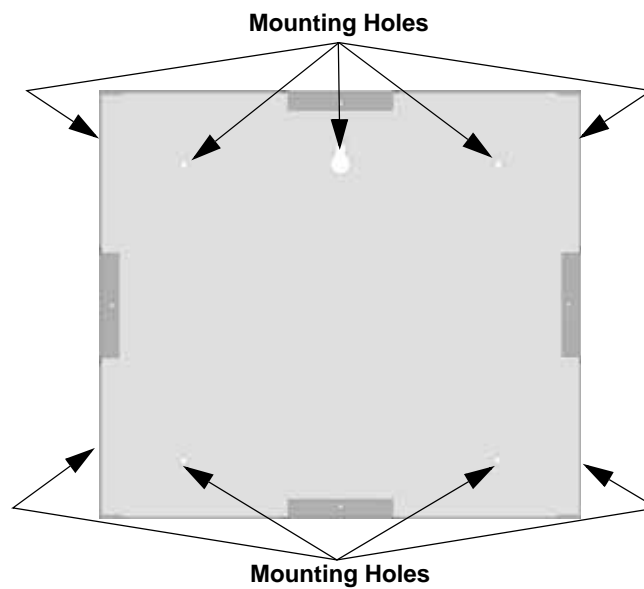

Figure 4-11 Back Box Mounting Holes
1. The back box dimensions are 9-9/32" w x 8-3/8" h. The minimum depth 2". The back box can be mounted prior to the complete installation of the SCSS-700ANN using any of the mounting holes shown in Figure 4-11.